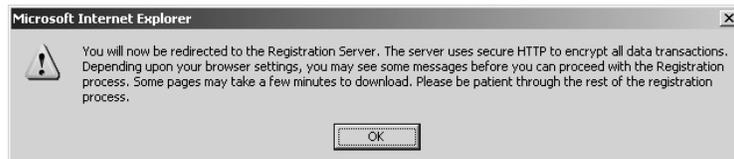

Figure 32: Accessing the registration server
28. Click **OK** on the pop-up window shown in Figure 32 to access the registration server.